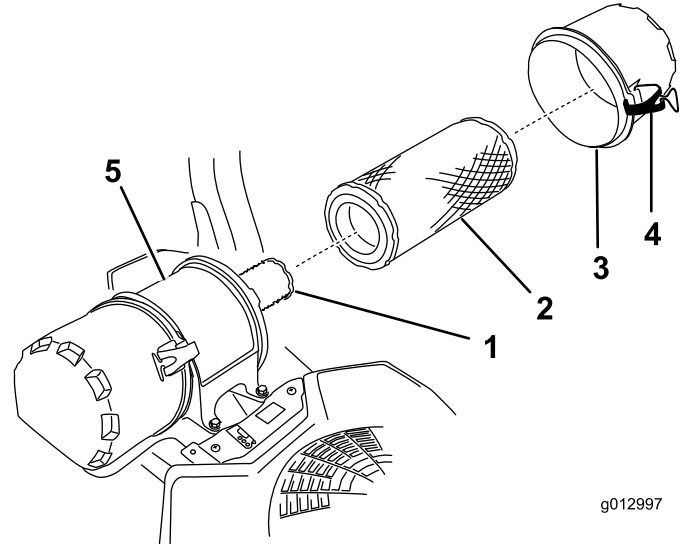

Figure 47
6. Release the latches on the air cleaner and pull the air-cleaner cover off the air-cleaner body (Figure 47).
8. Gently slide the primary filter out of the air-cleaner body (Figure 47).
- If the inner filter is being replaced, carefully slide it into the filter body (Figure 47).
- Carefully slide the primary filter over the inner filter (Figure 47).
- Install the air cleaner cover and secure the latches (Figure 47).